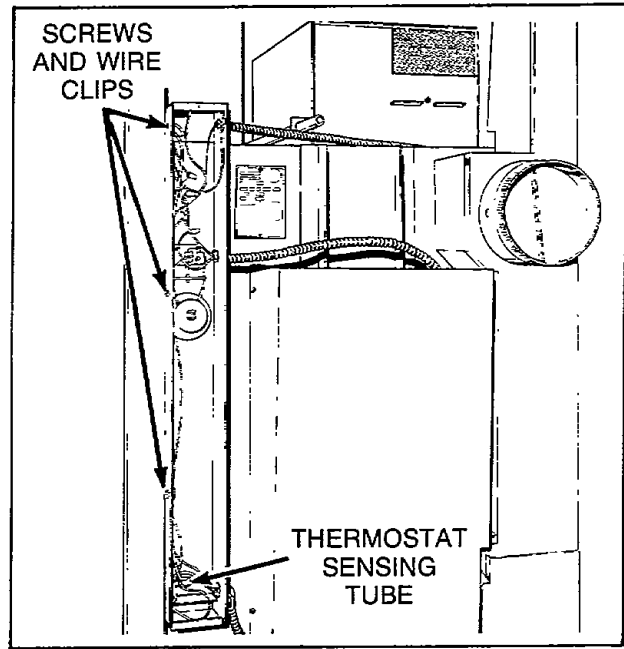

Figure 12
- g. Remove three screws and wire clips, *Figure 12*, holding sensing tube to wire way.